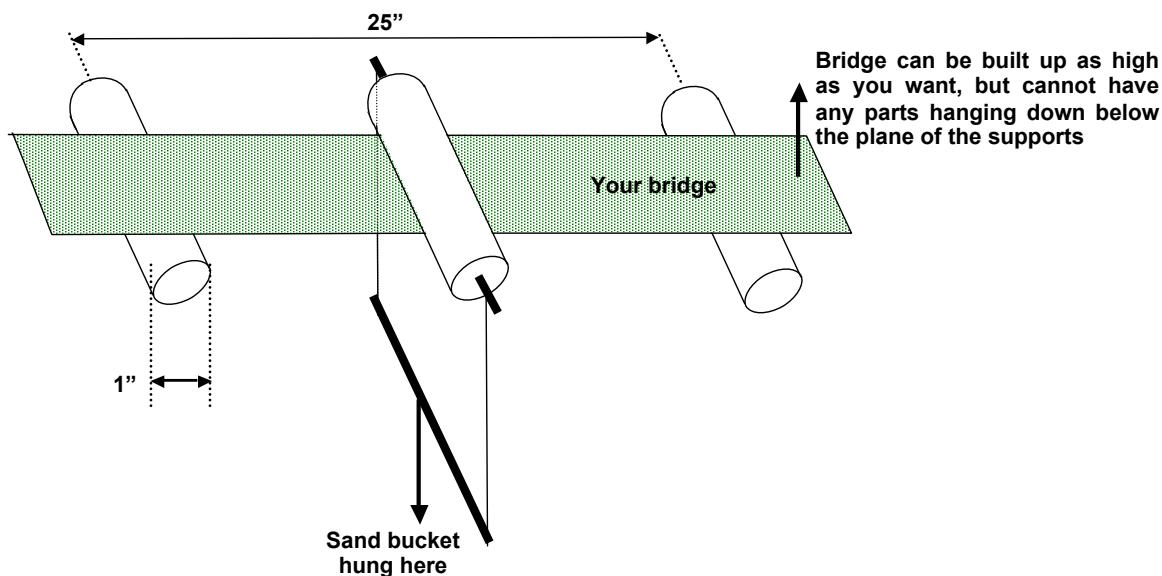

Figure 26. Diagram of spaghetti bridge contest
5. The bridge must be able to span a gap of 25 inches between two wooden dowels (cylinders), each 1 inch in diameter (see Figure 26). The bridge cannot have any structure below the plane of the top of supporting dowels, nor can anything be wrapped around the dowels. Loads will be applied by suspending a bucket below the center of the bridge from another 1 inch diameter dowel and slowly filling the bucket with sand until the bridge fails.